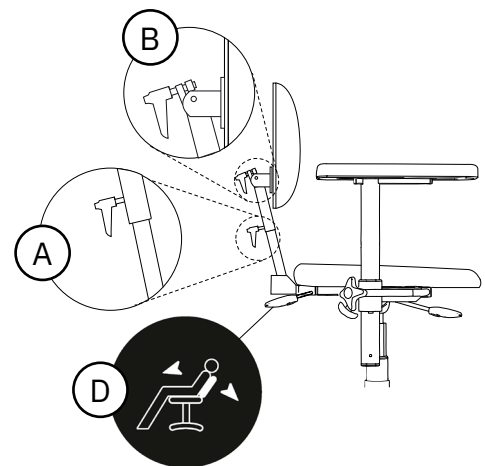

Figure 5.43. Comfort backrest mechanism.
Standard can be adjusted in height (A), angle of backrest (B) and has a gas spring-operated backrest mechanism (C), see Figure 5.43. The gas spring-controlled back recliner can be adjusted with the lever under the seat (standard) or the lever under the armrest (optional). The back recliner can be adjusted in the range of 3° forwards to 40° backwards.